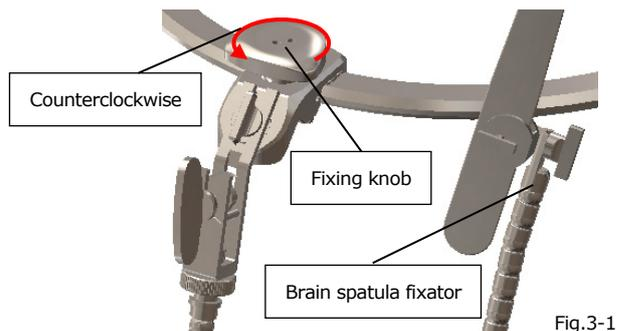

Fig.3-1
(3)-1 Rotate the fixing knob counterclockwise to loosen the fixation. At this point, hold the brain spatula fixator before loosening it (Fig.3-1). Stop the operation when you feel resistance.